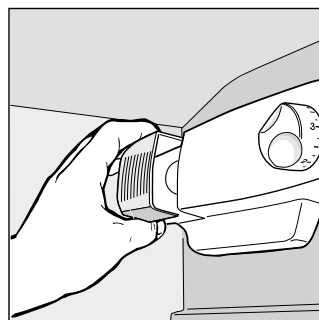

Fig. 4
- Replacing the light bulb. The bulb for lighting the interior of the appliance is located at the back of the thermostat box. Unscrew the burned out bulb and replace it with another bulb with a wattage no higher than 15 Watt, follow the instructions illustrated in fig. 4.